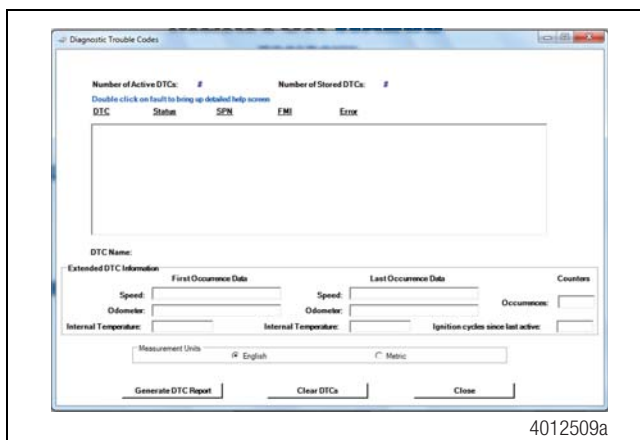

Figure 2.8
3. A description of the DTC, the number of times the DTC occurred, the suspect parameter number (SPN) and the failure mode identifier (FMI) are all displayed in the Diagnostic Trouble Codes window. When you click on one of the DTCs in the window, the “Extended DTC Information” will populate below. Information includes vehicle speed, odometer reading and the radar’s internal temperature the first and last time this trouble code was reported. The fields under “Counters” will show how many times this code was reported and how many ignition cycles since the last time this code was active. Figure 2.8. After making the necessary repairs, use the “Clear DTCs” to reset the radar.
DTCs can be cleared after generating a fault report. Only stored DTCs will clear. Figure 2.8.